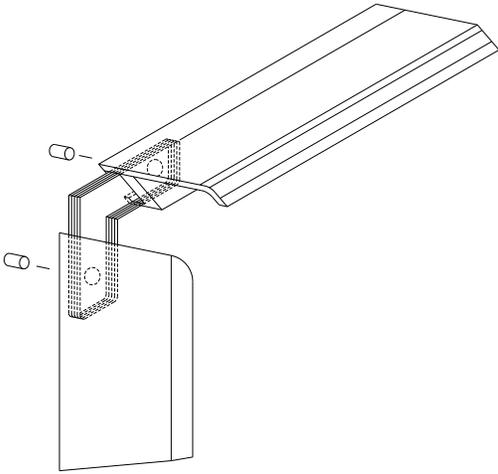

Figure 2.9c
2. Assemble the faceplate trim, attaching the mitered corners with the corner brackets. (see Figure 2.9c)